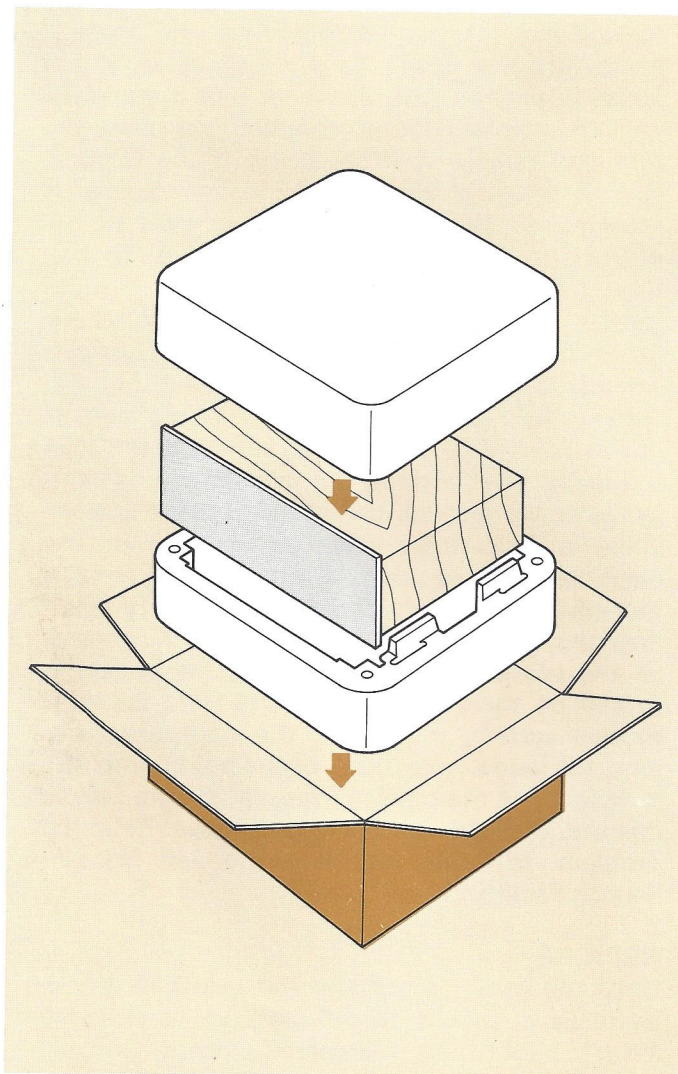

Figure 9. Repacking Illustration
- c. Pack the unit carefully, using the original material as shown in Figure 9. PLEASE NOTE that if you have discarded, lost, or damaged the packing material, new packing material may be obtained by writing to the **Marantz Technical Services Department**. The carton, its fillers, and packing instructions will be returned to you at a nominal charge.